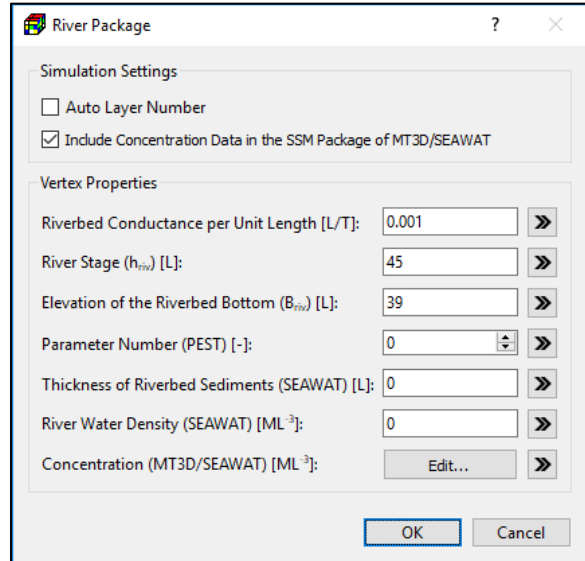

Figure 83. The River Package dialog box for specifying vertex properties
3. **Polyline input method:** Figure 83 shows a dialog box for specify data to one or more vertices of a polyline. The specified vertex data may be interpolated to model cells following the rules described in Section 3.4.2.2 and the rules below.